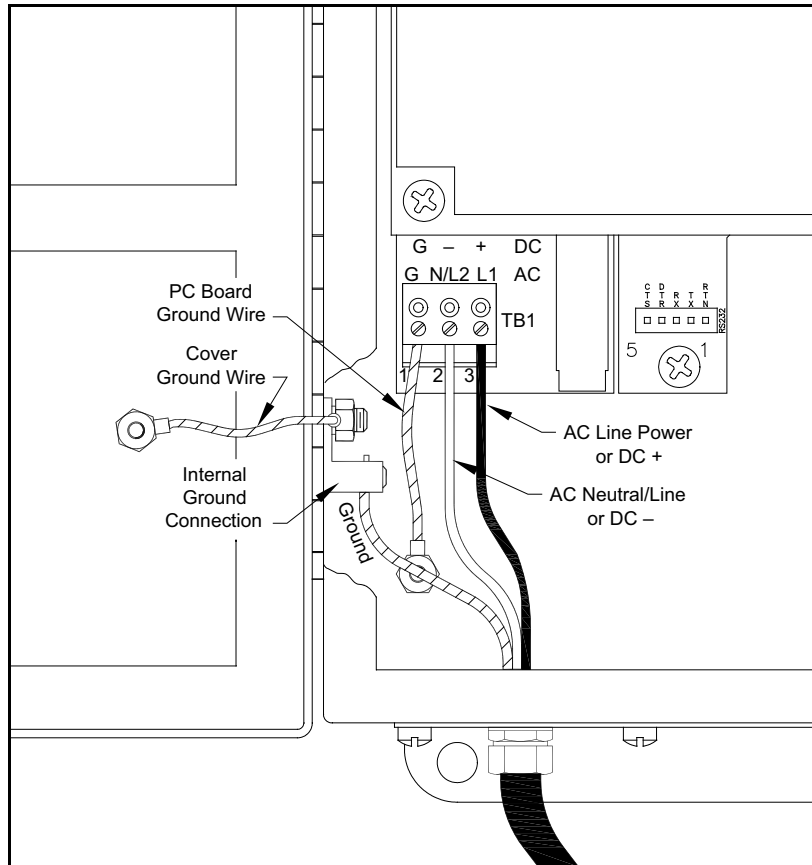

Figure 3: Wiring the Line Power
Refer to *Figure 3 on page 7* or *Figure 10 on page 18* to locate terminal block TB1 and connect the line power as follows:
3. Connect the ground lead to the internal ground connection located on the side panel of the enclosure (see Figure 3 below).
4. Connect the neutral or line lead (or the negative – DC power lead) to TB1-2, and the line power lead (or the positive + DC power lead) to TB1-3, as shown in *Figure 3* below.